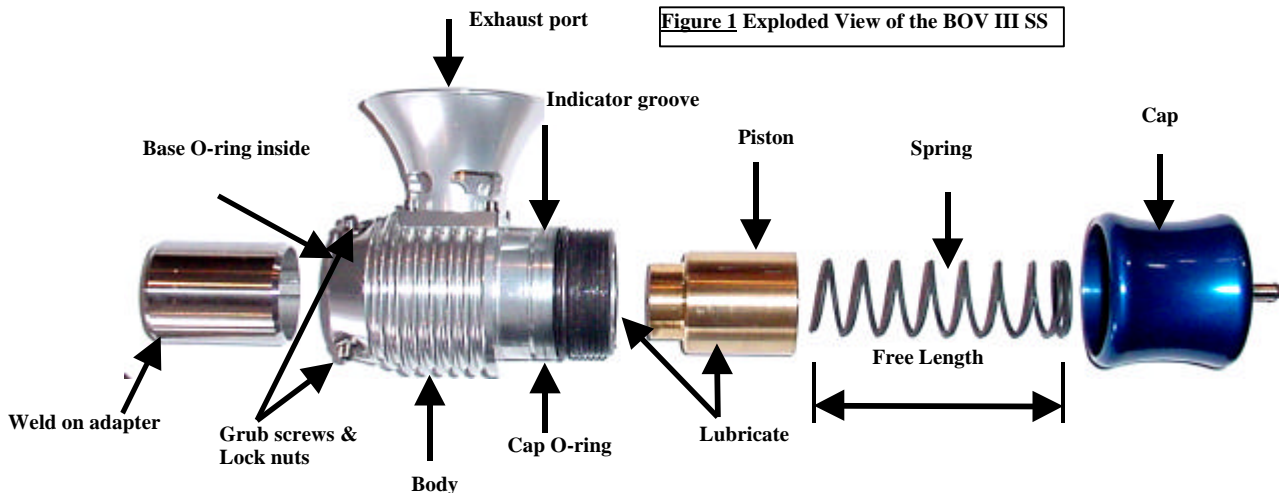

Figure 1 Exploded View of the BOV III SS
- Adjustment to the BOV III SS is made by rotating the cap (see figure 1), to increase spring tension rotate in the direction of hard, marked on the top of the cap
- Rotate the cap in the direction of soft to decrease the spring tension – **CAUTION** Do not rotate the cap beyond the indicator groove (see figure 1)
- Remove the cap of the BOV III SS by rotating in an anti-clockwise direction (see figure 1) – **CAUTION** The cap is under spring tension, wear safety glasses and remove with care!
- Lubricate the bore and the piston with Uni-Glide™, hydraulic oil or sewing machine oil (see figure 1) – **DO NOT** use grease or viscous oils